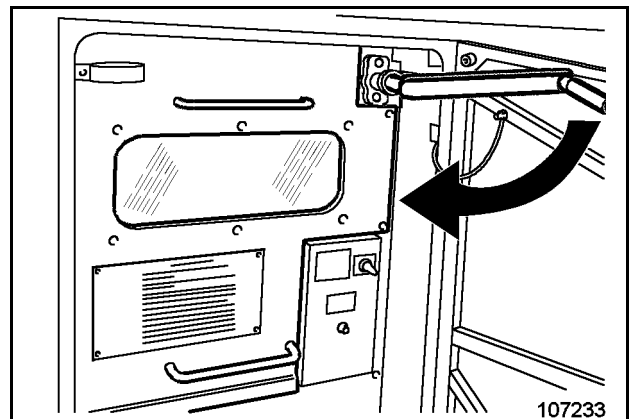

Fig. 2-82:
- Slip actuating lever (Fig. 2-82:) onto the actuating shaft of the circuit breaker. Pull locking element outwards against spring pressure.
- Turn actuating lever by ca. 180° to the left (Fig. 2-82:). This tensions the cut-out spring.